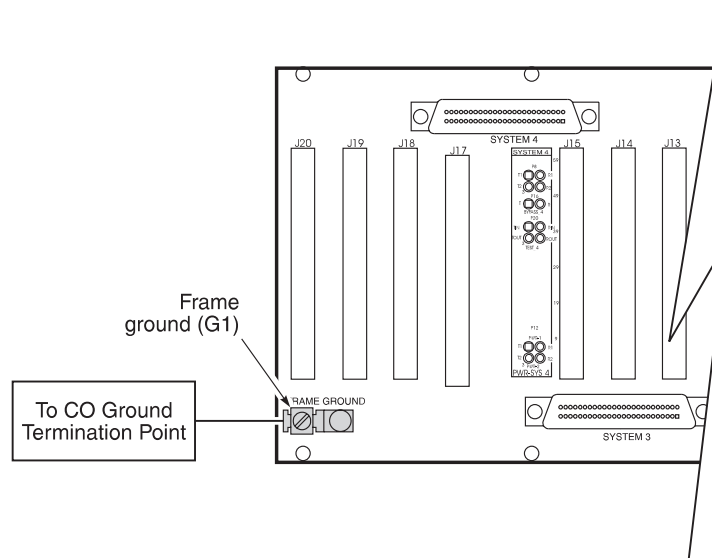

Figure 3. Connecting the Frame Ground (Protection Ground)
- 8.1.1** To connect the frame ground (Figure 3):